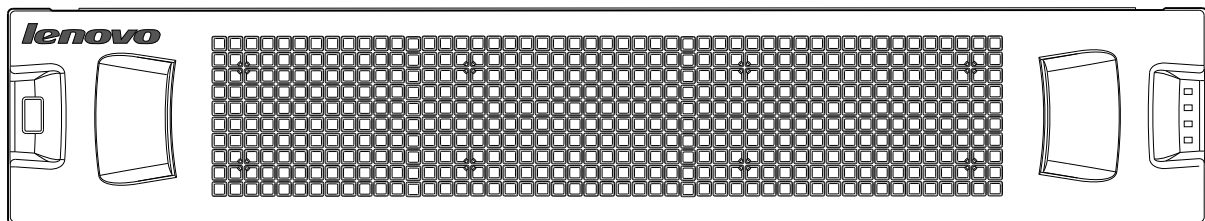
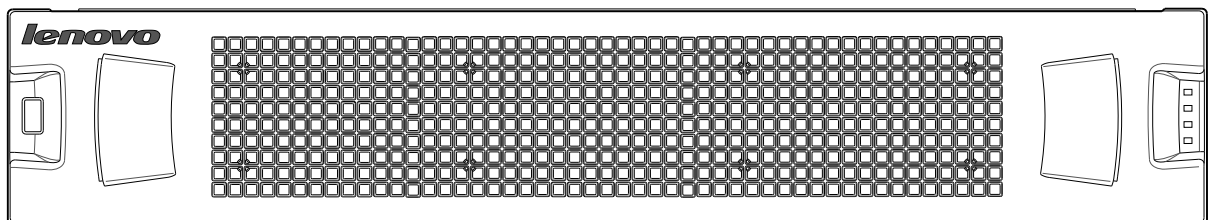

Figure 31 Front panel enclosure bezel: 24-drive enclosure (2U24)
Figure 32 Front panel enclosure bezel: 12-drive enclosure (2U12)
Each S3200/S2200 enclosure is equipped with a removable bezel designed to cover the front panel during enclosure operation. The bezels look very similar, but there are differences between the two models. The bezel fitting the 2U24 chassis provides two embossed pockets used during bezel removal (Figure 31); whereas the bezel fitting the 2U12 chassis provides two debossed pockets, is equipped with an EMI (Electromagnetic Interference shield), and may or may not be equipped with the serviceable dust filtration air filter option (Figure 32).
- Front view of 24-drive enclosure (2U24): Figure 31
- Front view of 12-drive enclosure (2U12): Figure 32